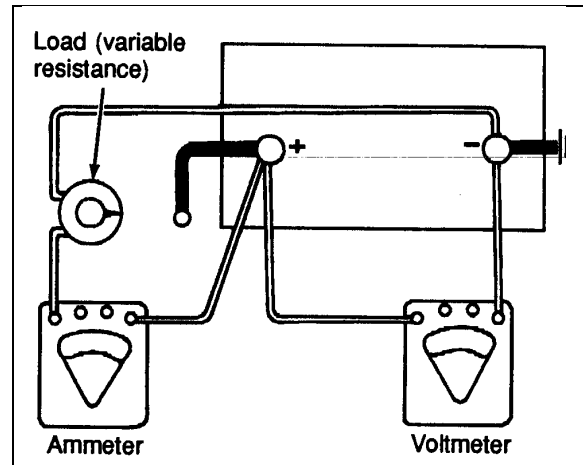

FIGURE 18: LOAD TEST
1. Connect a voltmeter, ammeter, and a variable load resistance as illustrated in figure 18.